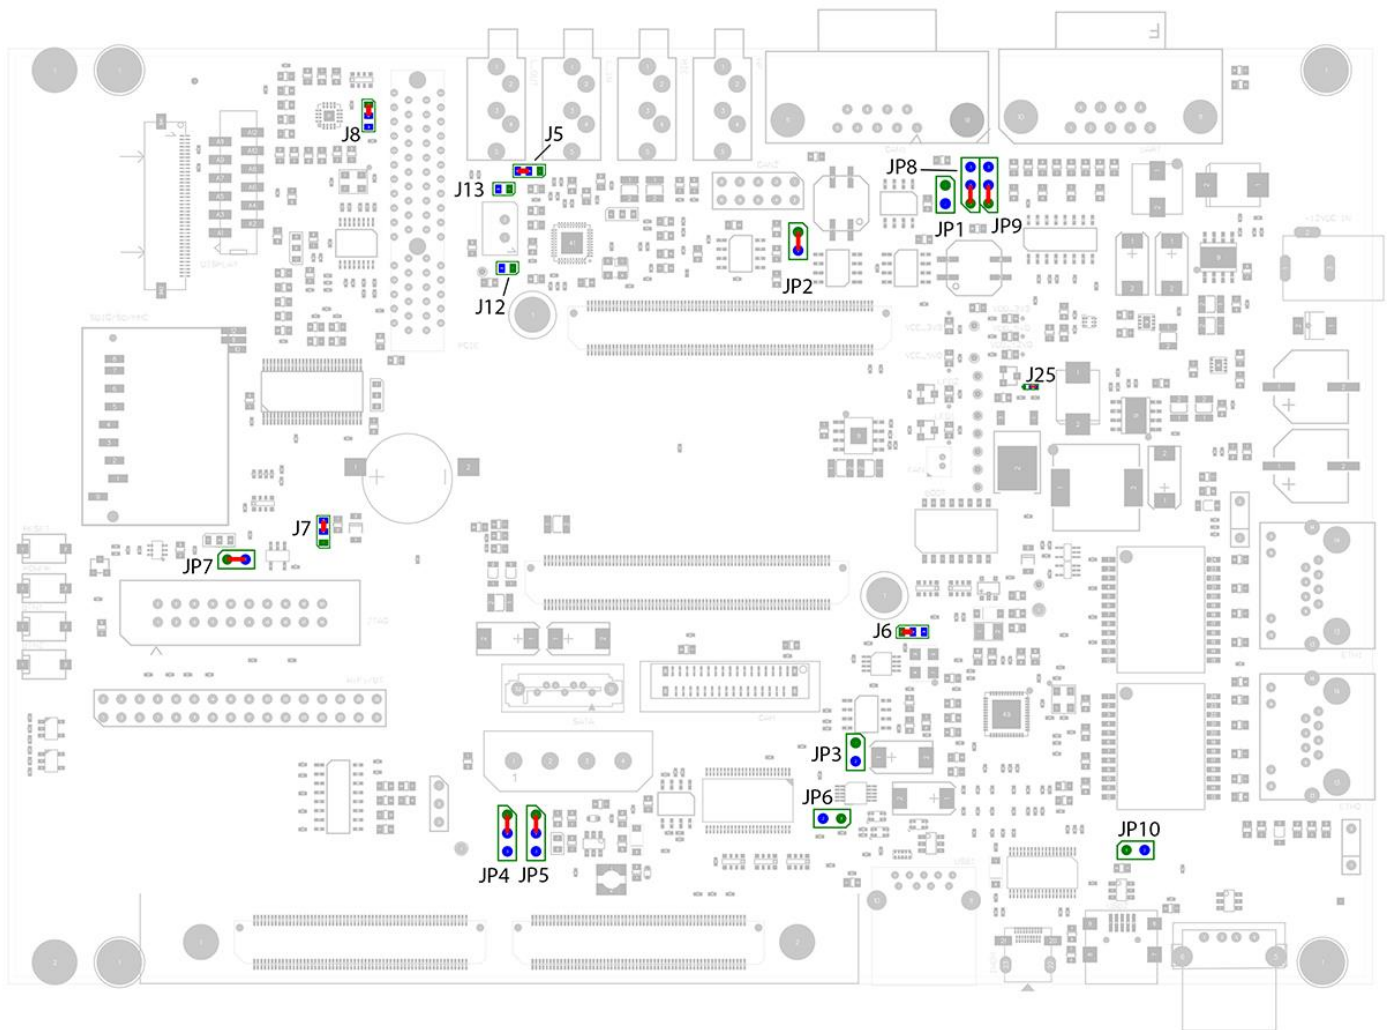

Figure 9. Jumper Locations and Default Settings
The phyCORE-AM57x Carrier Board is designed with various removable jumpers (JP) and several solder jumpers (J). These jumpers provide the user flexibility in routing a number of signals as well as configuring various control signals. Table 20 lists the solderless jumpers, their default positions, and the function they serve in each position. Table 21 lists the default positions and functions of the solder jumpers. For a detailed description of each jumper, reference the applicable chapter listed in the tables. Figure 9 provides a detailed view of the phyCORE-AM57x Carrier Board jumpers and their default settings.